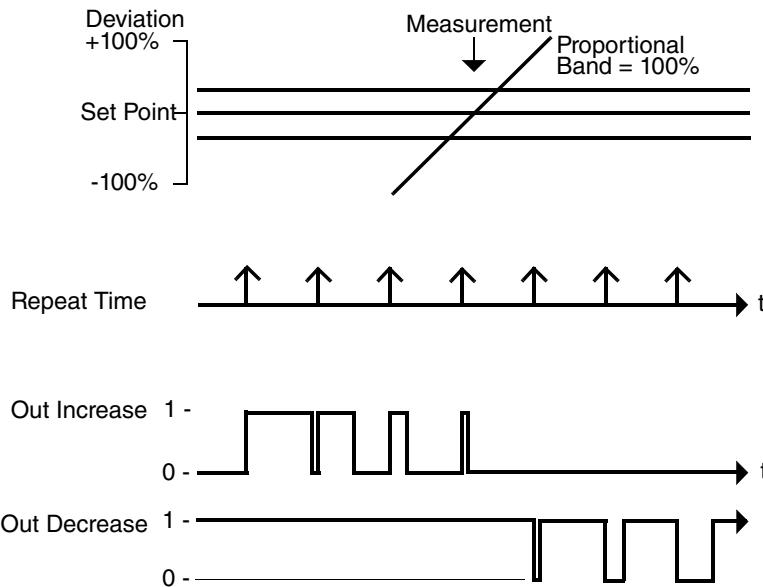

Figure 2. Pulse Width Modulation Algorithm Timing Diagram
- ▶ Within each control period, the algorithms operate as linear proportional only controllers whose gain is adjusted by the proportional band setting. See Figure 2 for an example of a pulse width modulation timing diagram.
- ▶ The algorithm provides Integral-only (I) response to position a motor-driven valve. An optional local Operator’s Control Panel is available for manual driving of the outputs when the pulse width modulation algorithm is in use.